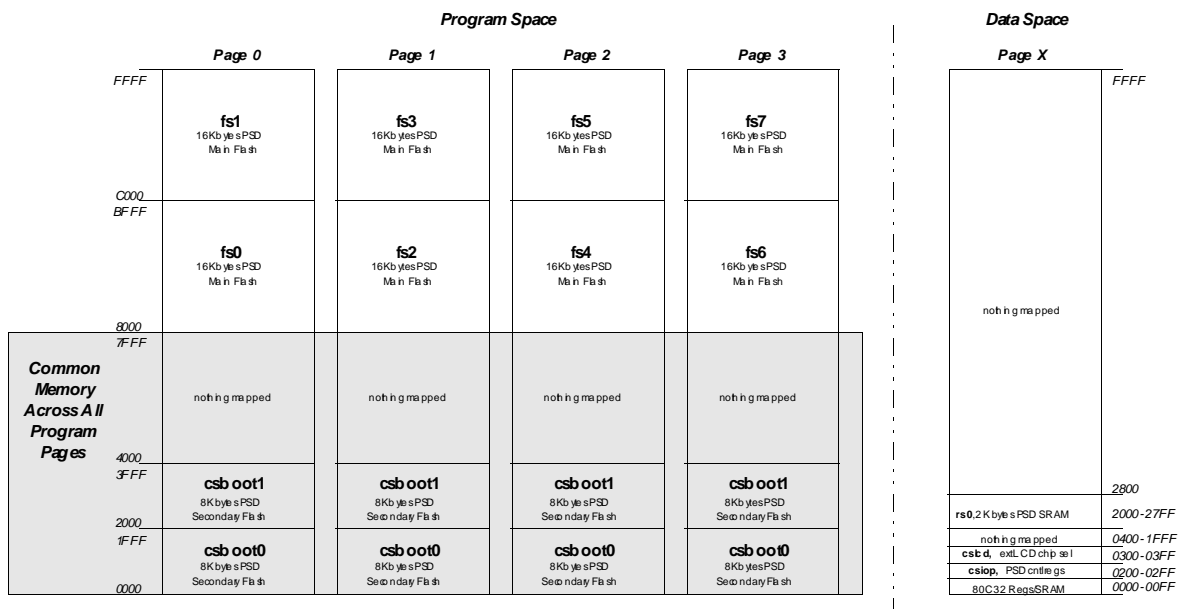

Figure 9 – Memory Map just after 80C32 writes 06 hex to PSD VM register.
- Fig 9: Main Flash memory has moved to Program space because of 06 hex in VM register
- Fig 9: 80C32 sets swap bit to logic one (writes to PSD page register)